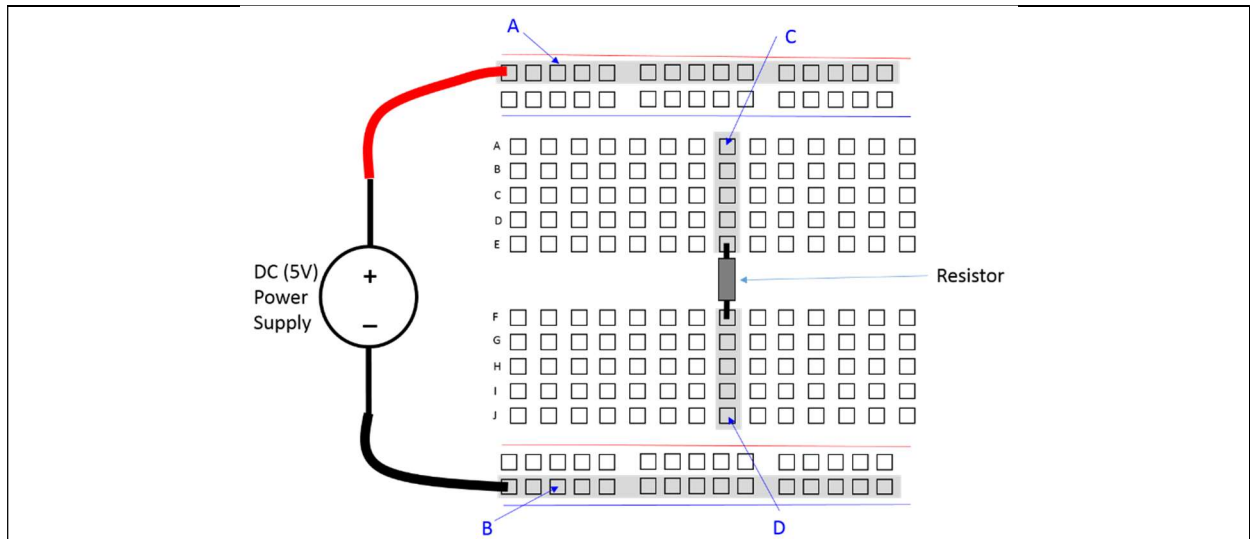

Figure-3.22: Place the power supply and a resistor on the breadboard
2. Connect the power supply outputs POSITIVE (+) and NEGATIVE (-) to the breadboard with cables or wires. Insert one 3.9k ohm resistor to the breadboard as shown in Figure-3.22. With reference to Figure-3.16, there should be four groups (A, B, C and D) of holes on the breadboard (Refer to your measured results in experiment-3.1 procedure-4).